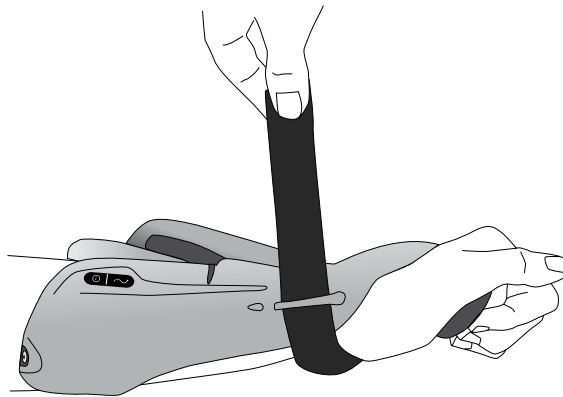

Figure 6-9: Securing the Wrist Strap
2. Bring the wrist strap under the wrist and up through the wrist strap attachment bar. See Figure 6-9.